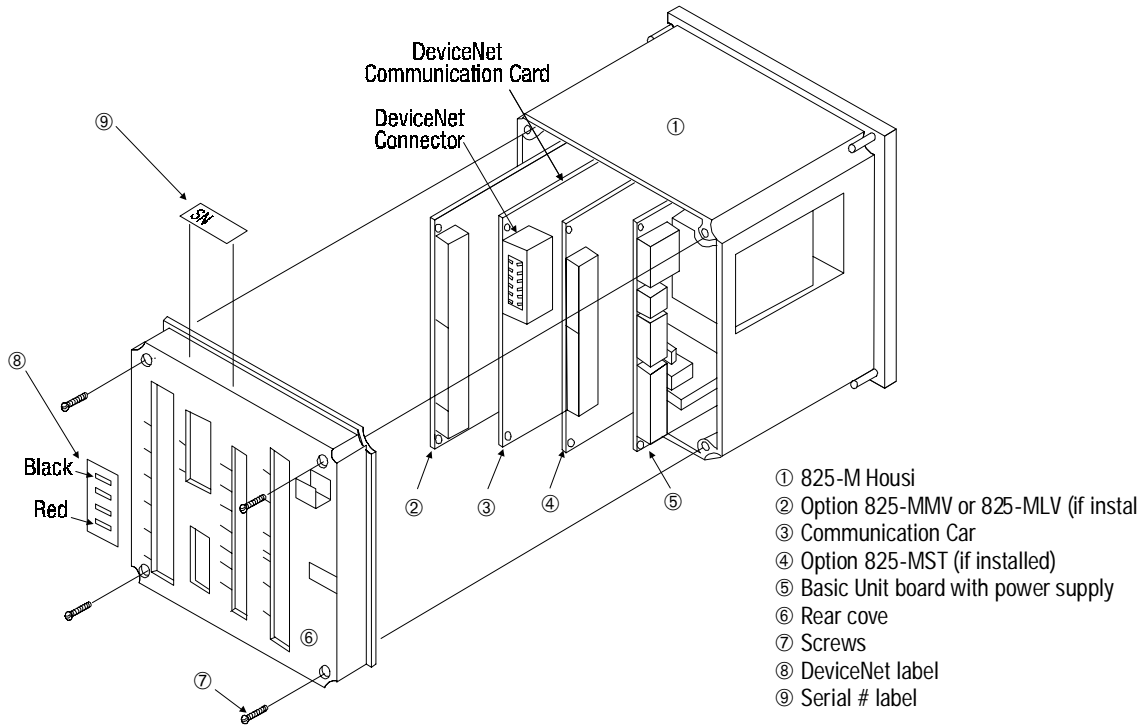

Figure 2.1 Removing and Installing the Communication Card
Before installing the Communication Card, SMM's rear cover must be removed. This is done by removing the 4 screws on the corners of the rear cover (6), as shown in Figure 2.1.
Carefully and slowly, slide the Communication Card into the Bulletin 825 housing being sure that backplane connector shown in Figure 2.1 mates with the backplane receptacle pins on the mother board. Care should be taken not to damage the pins or backplane connector while making sure that the Communication Card seats against the mother board.
5. Attach the supplied DeviceNet label ⑧ and serial # label ⑨ as shown in Figure 2.1.